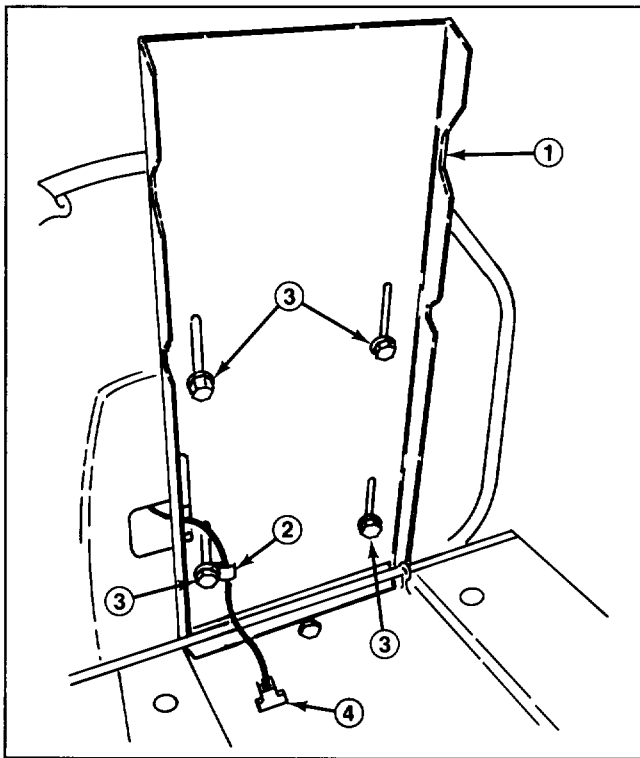

Figure 1
1. Position seat onto seat base, inserting seat switch cable thru slot and aligning mounting holes (Fig. 1).
2. Slide wire clamp over seat switch wire (Fig. 1).
3. Using left rear mounting slot in seat base, loosely secure wire clamp and seat to seat base with a capscrew and lockwasher (Fig. 1).
4. Mount seat to seat base with (3) remaining capscrews and lockwashers.